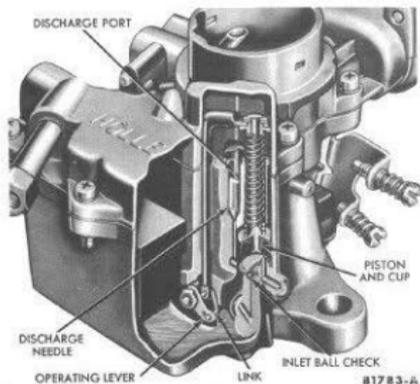

FIG. 16—Accelerating System
**Accelerating System.** The accelerating system provides the additional fuel required for acceleration from the lower engine speeds. A piston type pump transmits this added amount of fuel from the fuel bowl through passages to the discharge port located above the venturi. The intake ball check and the discharge needle check are required to control pump operation (See Fig. 16).